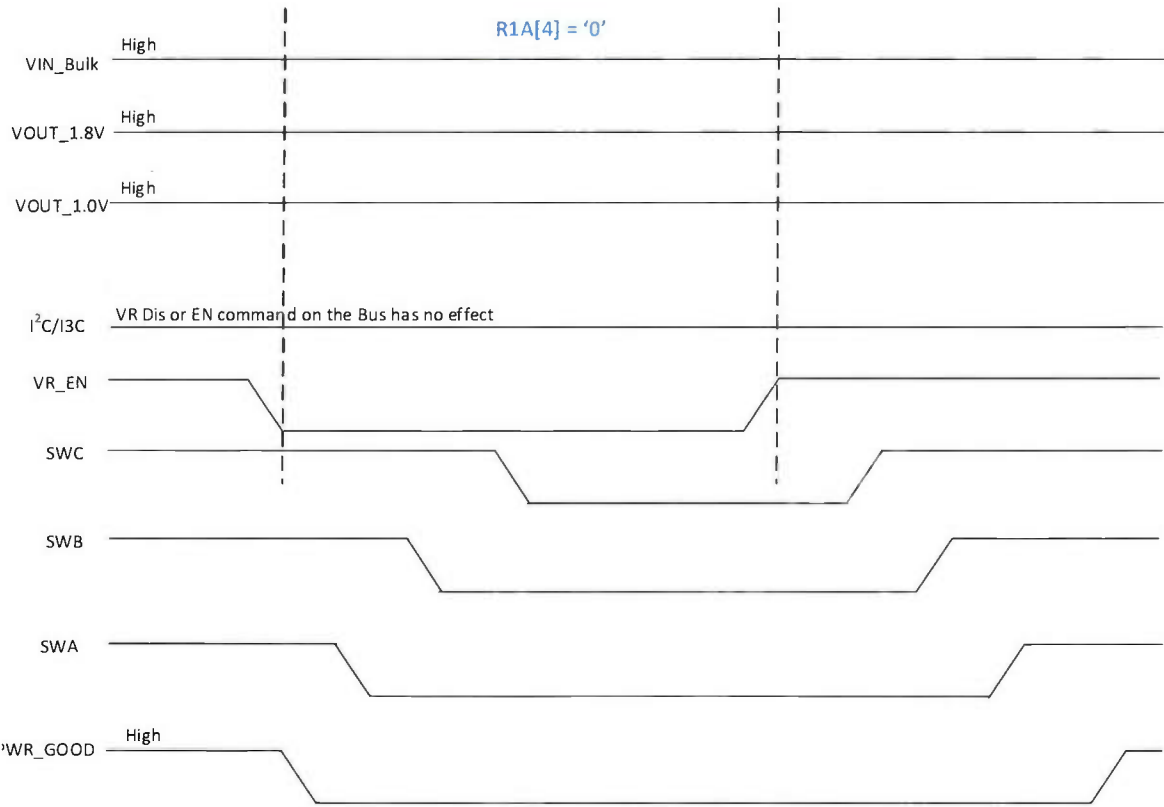

Figure 29 — Power Down with VR_EN Pin; R1A[4]=0; Secure Mode; PWR_GOOD Signal
1. The VR Disable command with VR_EN pin transitions to low. The PMIC asserts PWR_GOOD signal Low. The PMIC executes power off sequence config0 (Table 176, Register 0x58) to power off sequence config2 (Table 178, Register 0x5A,) to preserve the appropriate voltage relationship as configured in the registers. The host can re-enable the PMIC's output regulators by VR_EN pin transition to High. The PMIC executes power on sequence config 0 to power on sequence config 2 registers and floats PWR_GOOD signal after tPMIC_PWR_GOOD_OUT timing parameter is satisfied. See Figure 29. The PMIC does not require power cycle.
1. The VR Disable command with VR_EN pin transitions to low. The PMIC asserts PWR_GOOD signal Low. The PMIC executes power off sequence config0 (Table 176, Register 0x58) to power off sequence config2 (Table 178, Register 0x5A,) to preserve the appropriate voltage relationship as configured in the registers and enters in P1 state. The host can re-enable the PMIC's output regulators by VR_EN pin transition to High. The PMIC exits from P1 state and executes power on sequence config 0 to config 2 registers and floats PWR_GOOD signal after tPMIC_PWR_GOOD_OUT timing parameter is satisfied. See Figure 29. The PMIC does not require power cycle.